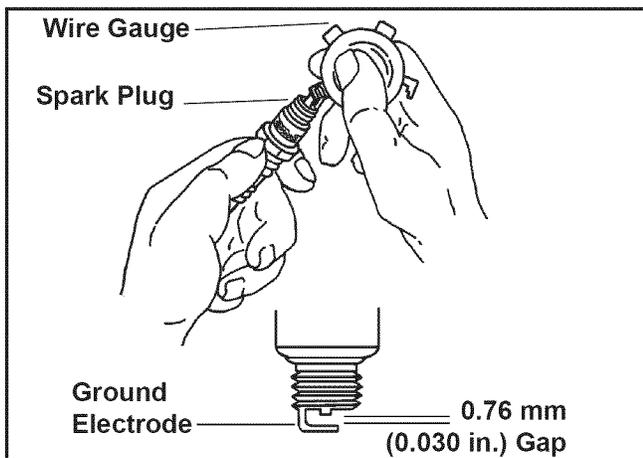

Figure 14. Servicing Spark Plug.
3. Check the gap using a wire feeler gauge. Adjust the gap to 0.76 mm (0.030 in.) by carefully bending the ground electrode. See Figure 14.